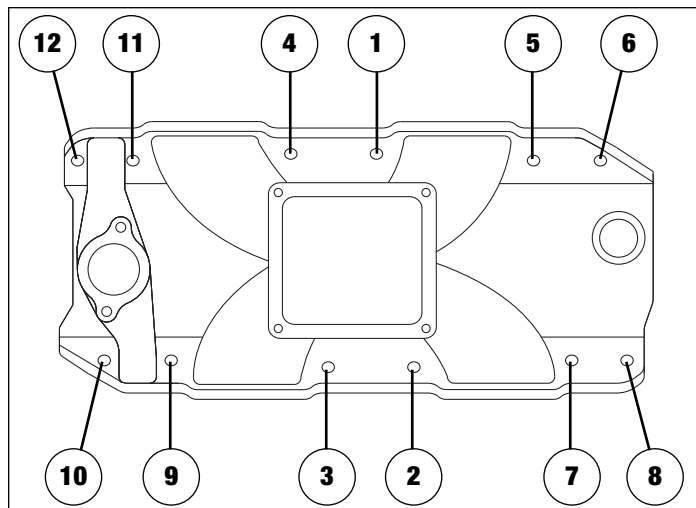

Figure 1 - 396-502 C.I.D. Chevrolet Bolt Torque Sequence
- **MANIFOLD TORQUE:** Torque the manifold bolts to 25 ft/lbs in small, even steps, following the recommended torque sequence (**See Fig. 1**). If you cannot fit a torque wrench on some of the bolts, use a small box end wrench to avoid over tightening.